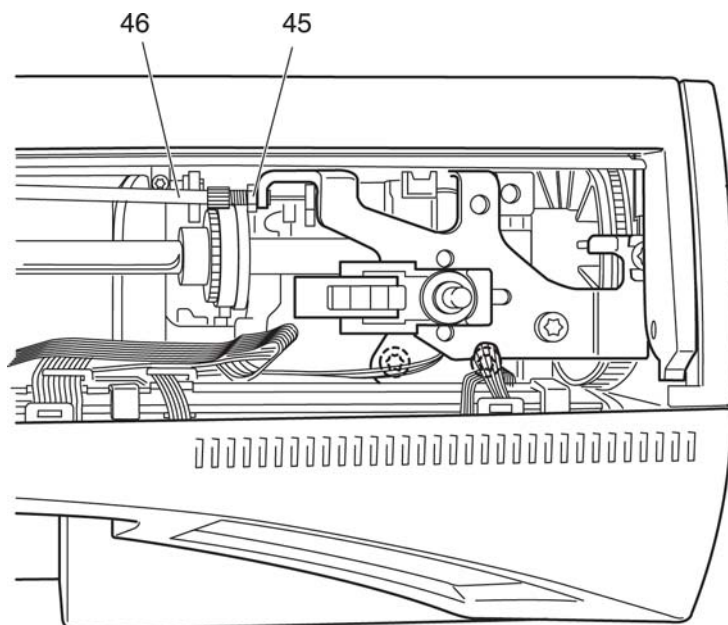

Fig. 10a
- Loosen counter nut 45 with a 7 mm fork wrench (fig. 10a).